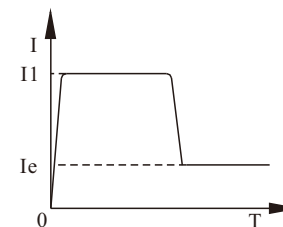

Figure 10
- Figure 10 illustrates the motor current waveform in current-limit starting mode, where  $I_1$  is the set starting current limit. When the motor starts, the output voltage increases rapidly until the motor current reaches the set limit  $I_1$  and is held at or below this value. The motor then accelerates as the output voltage rises gradually. When the motor reaches rated speed, the bypass contactor closes, and the output current drops rapidly to the motor's rated current  $I_e$  or below, completing the starting process.